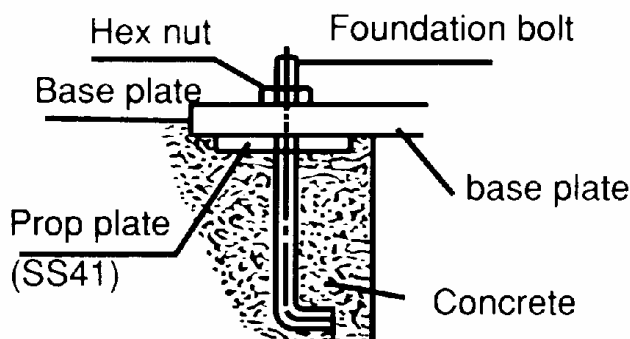

Fig. 4
- A massive concrete foundation is preferred in order to minimize vibration. Rigidity and stability are enhanced by prop plate and foundation bolt. As shown in Fig. 4.